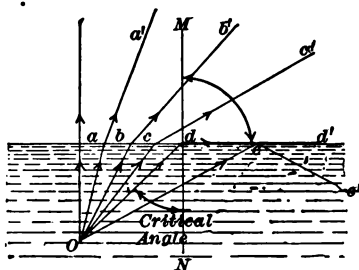

FIG. 410. — Total reflection of light by water.
**441. Total reflection.** We have seen in section 432 that when a beam of light passes obliquely from water or glass into air, the refracted ray is bent away from the perpendicular. For example, in figure 410 the light coming from a point  $O$  under water, in the direction  $oa$ , is refracted in the direction  $aa'$ ; the ray  $ob$  is refracted along  $bb'$  and  $oc$  is refracted along  $cc'$ . As the angle in the water increases, we come finally to a ray  $od$  which is refracted along  $dd'$ , and